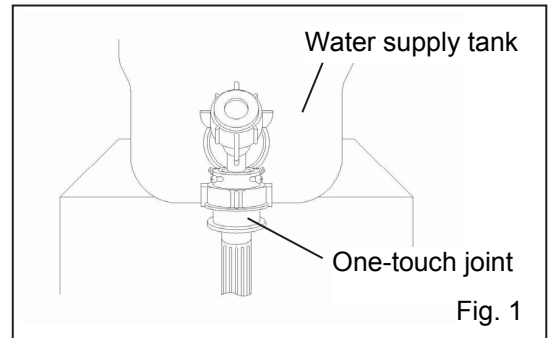
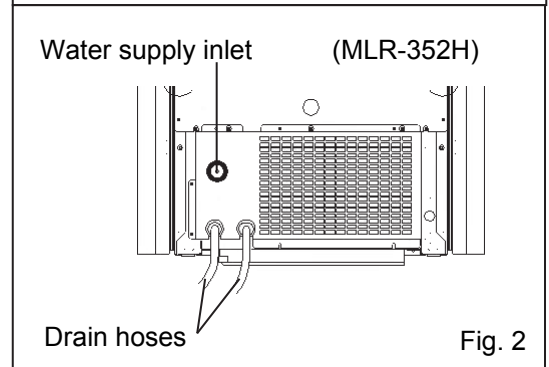

Fig. 1
Fig. 2
Extend the leveling feet by turning them counterclockwise to contact with the floor. Ensure the unit is level. See Fig. 1.
Two fixtures are attached to the rear of the frame. See Fig. 2. Fix the frame to the wall with these fixtures and rope or chain.
6. Set the evaporating tray enclosed in the chamber under the unit from the left side of the unit. (See Fig. 1 on page 11)
Arrange the drain hose (See Fig. 2 and 3) so that the water can be drained properly in the hose. Use a container for drained water if there is no suitable site for drainage around the unit. In this case, be sure to set the container inlet at lower position than the drain hose outlet.
The 4 upper shelves (except the fifth one at the bottom) can be adjusted to desired height. To adjust the height, insert self-support clips (4 per shelf) into the slots at the desired height (Fig. 1). However the self-support clips for the bottom shelf should be inserted into the 4th and the 5th long hole counting from the lowest one, and their position should not be changed (Fig. 2).